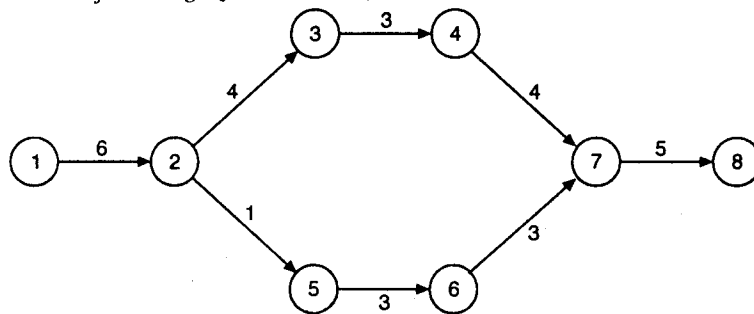

Fig. 25.74
**Solution.** The maximum duration of the project is 22 days and the maximum number of laboures required is 8 for the activity 1-2. The earliest time to start various activities are calculated and then a time-scale network is constructed by taking the critical activities on the horizontal line and slack activities above it (see Fig.25.74).